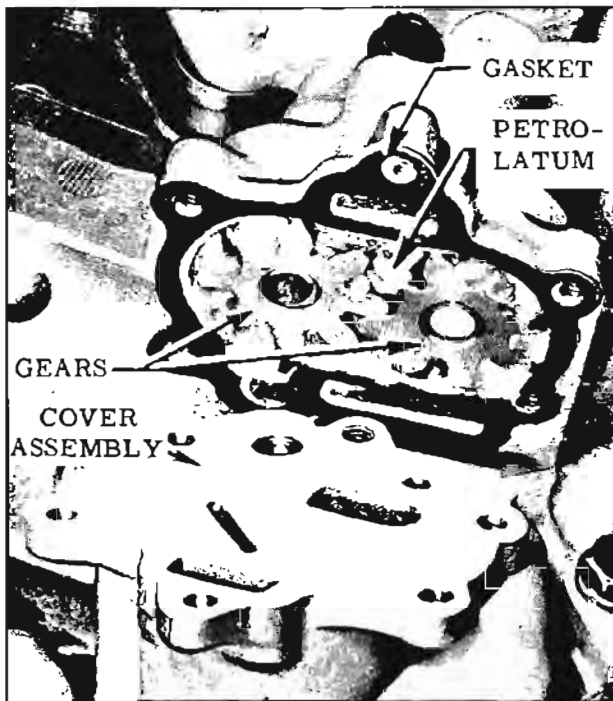

Fig. 8-140 Packing Oil Pump
7. Fill gear pocket with petrolatum and force into every cavity of the gear pocket. Also between teeth of gears. (Fig. 8-140)